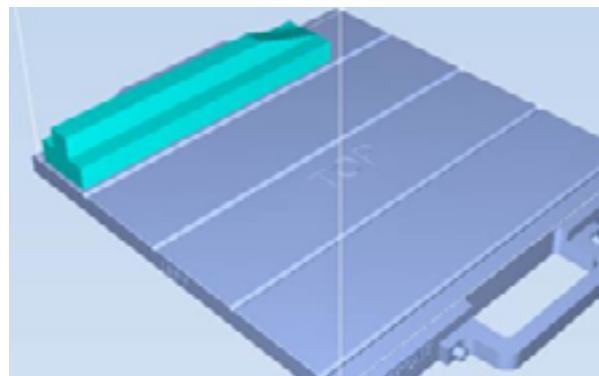

Figure 4: Long edge is along the X-axis.
- When printing parts that have a high aspect ratio (X:Y), position the longer edge along the X-axis (see Figure 4).